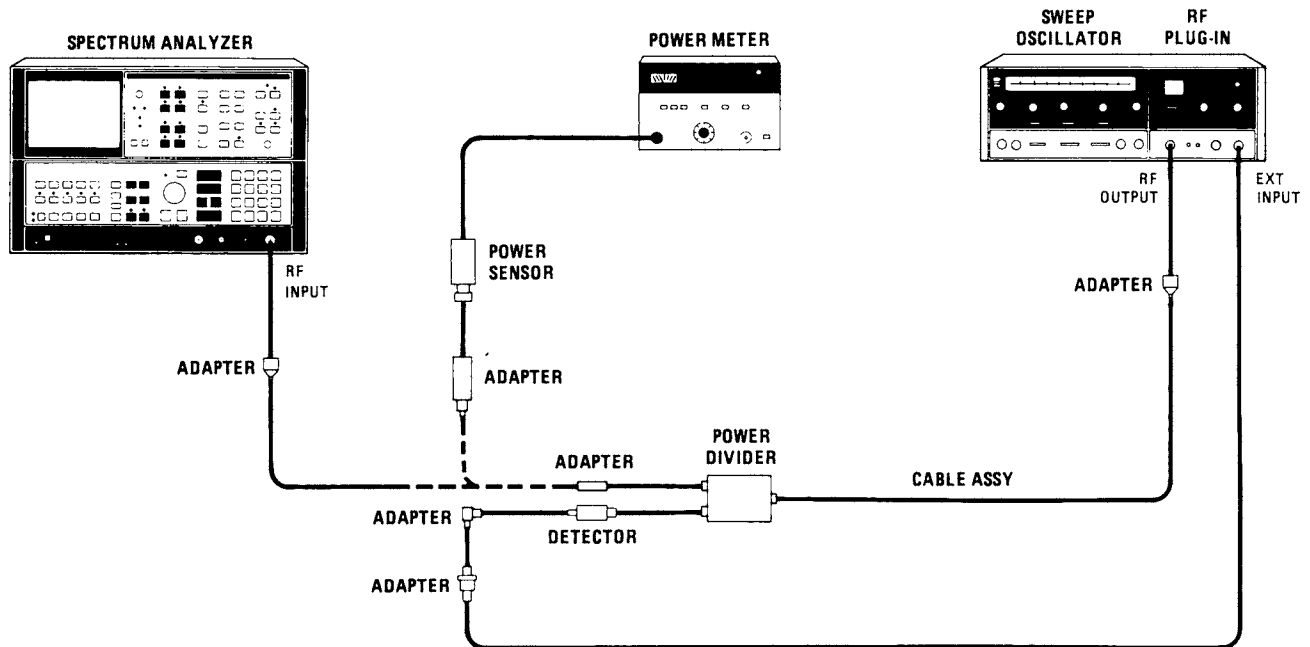

Figure 4-23. Frequency Response Test Setup (2 to 18 GHz)
40. Calibrate HP 436A Power Meter and HP 8481A Power Sensor. Connect equipment as shown in Figure 4-23, with power sensor connected through adapter to one output of the power divider.
45. Disconnect power sensor from power divider and connect divider output to the analyzer input as shown in Figure 4-23. No cables should be used between divider and analyzer.
53. Connect power sensor to power divider as in Figure 4-23. Set sweep oscillator from 2.6 GHz to 18 GHz in 200 MHz increments and plot the power meter readings or record them in a table (if plotting the values, label the frequency axis up to 22 GHz). Make changes in the CAL FACTOR % setting as required.